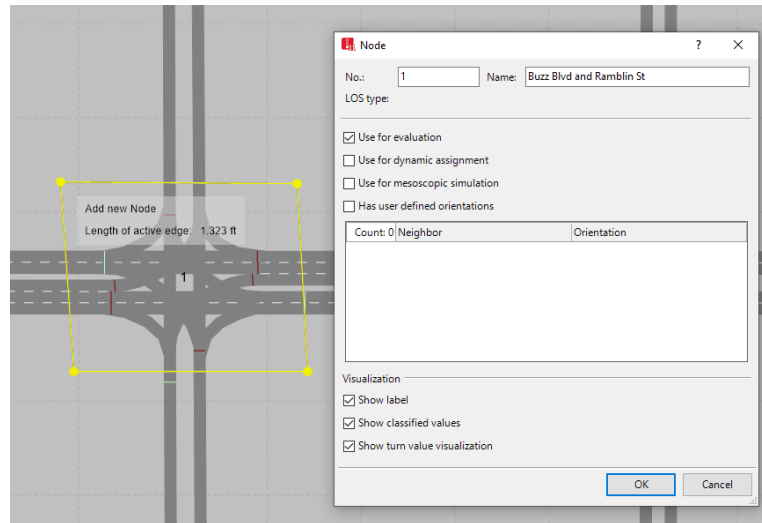

Figure 25: Buzz Blvd. and Ramblin St. Node
- step ii. Draw a *Node* around the intersection. Right-click to start drawing the *node*, left-click to create a turning point in the *node*, double left-click at the last point and Vissim will then close the *node*. Your *node* should be similar to Figure 25.